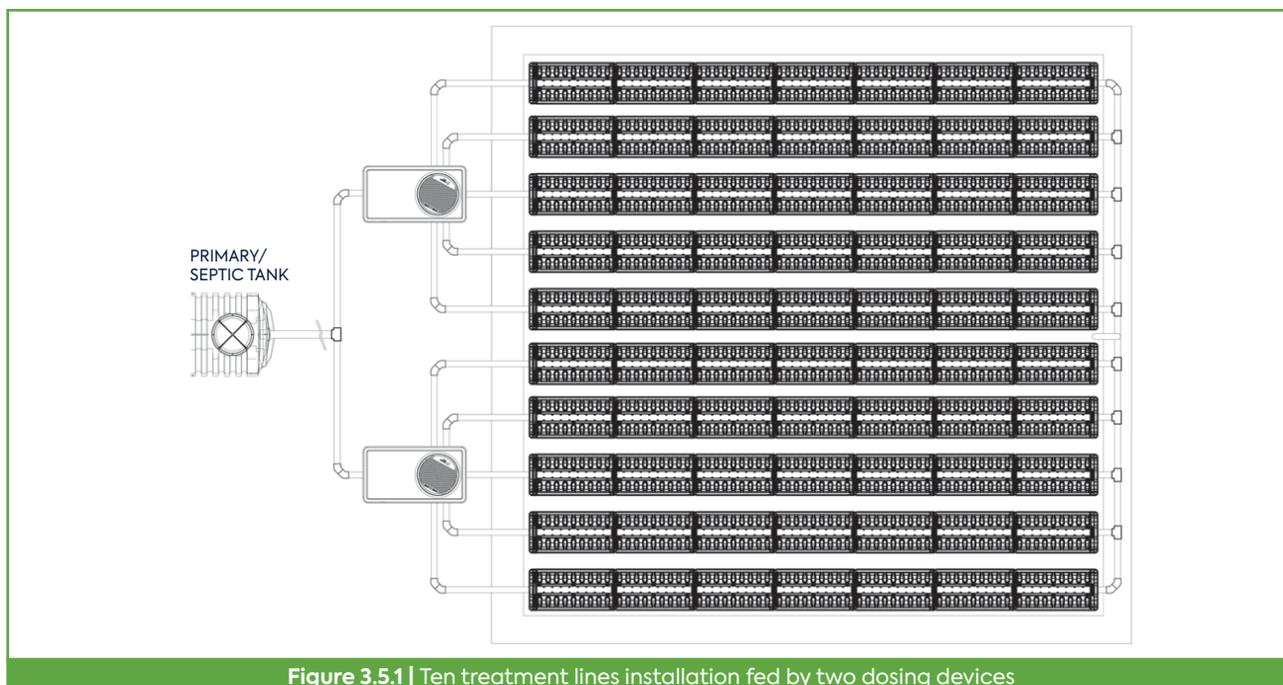

Figure 3.5.1 | Ten treatment lines installation fed by two dosing devices
The maximum length of a gravity fed system is 18 m (60') per run (fifteen modules) and/or a total number of modules not exceeding thirty-six (36) as summarised in table 2 above. A system with more than thirty-six modules requires a second dosing device as shown in figure 3.5.1. or low-pressure pipe distribution. Runs exceeding 18 m (60') in length require low-pressure distribution.